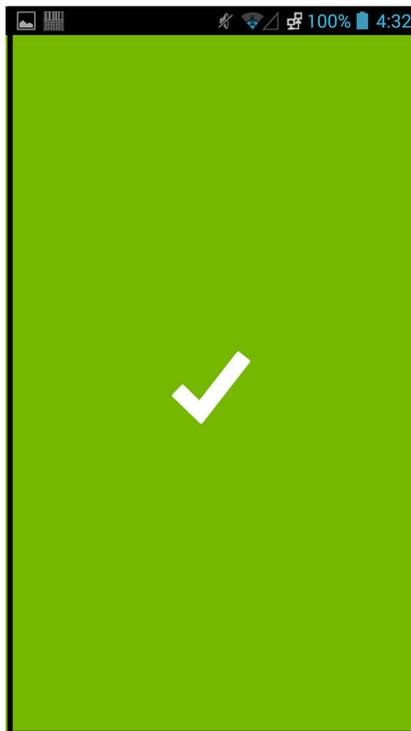

Figure 5-103. Cepheid Link Scanner Success (Green Check Mark) Screen
- 2) If an order was found, the Success screen (green check mark) will be displayed for a very short time (see Figure 5-103) and the Scan Cartridge screen will be displayed. See Figure 5-106.
- 4) If an order was found, the Success screen (green check mark) will be displayed for a very short time (see Figure 5-103) and the Scan Cartridge screen will be displayed. See Figure 5-106.
If the cartridge is successfully paired with the sample, the Success screen (green check mark) will be displayed for a very short time (see Figure 5-103).
- If the aliquot is successfully scanned, the Success screen (green check mark) will be displayed for a very short time (see Figure 5-103).